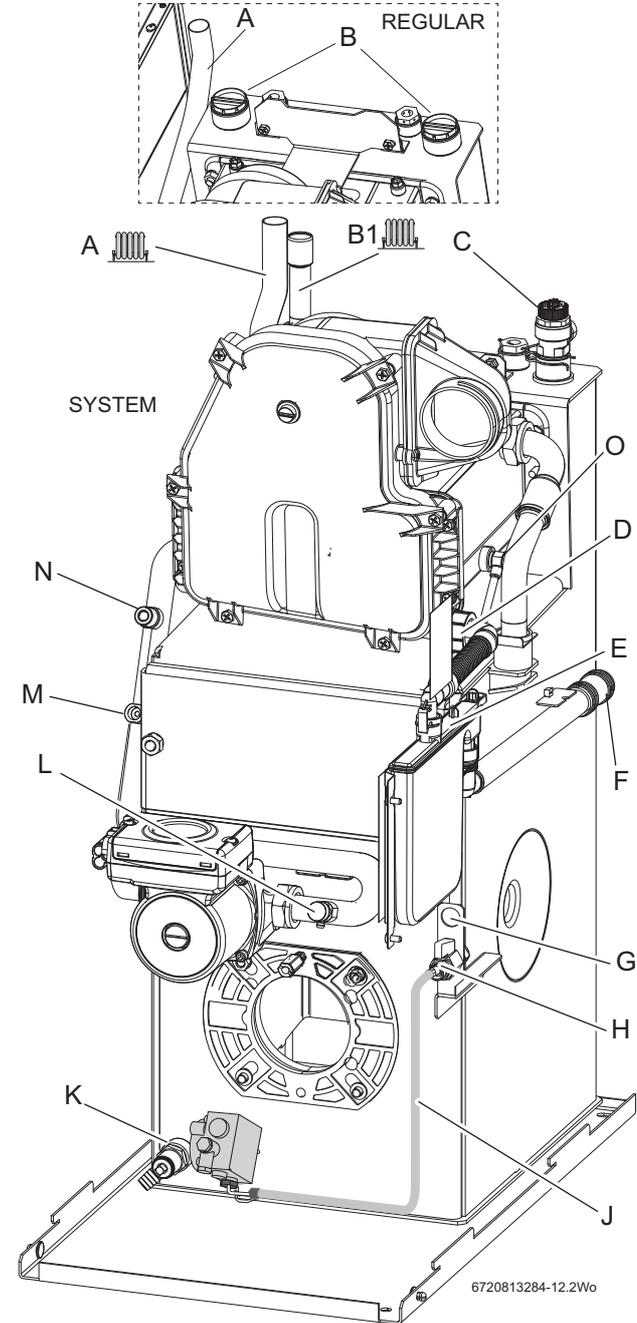

Fig. 45 Pipework connections
- ▶ Refer to figure 45 and ensure that the isolating valve (H) is fully closed and route the oil supply pipe along the right side of the boiler and connect to the isolating valve (H).
- ▶ Connect the 21.5mm polypropylene pipe (not supplied) to the condensate waste pipe flexible push fit connector (F) and terminate to waste. Do not use any solvents, adhesives or lubricants when pushing the pipe into the flexible push fit connector (F).
- ▶ Carefully pour 500ml of water into the condensate collection (P) to fill condensate trap.
- ▶ Refit flue manifold access cover (R) and secure with screws (S).
2. Connect the flexible oil pipe return hose [3] (not supplied) to the oil pump and return pipe fixing and tighten to secure (for routing see figure 45).